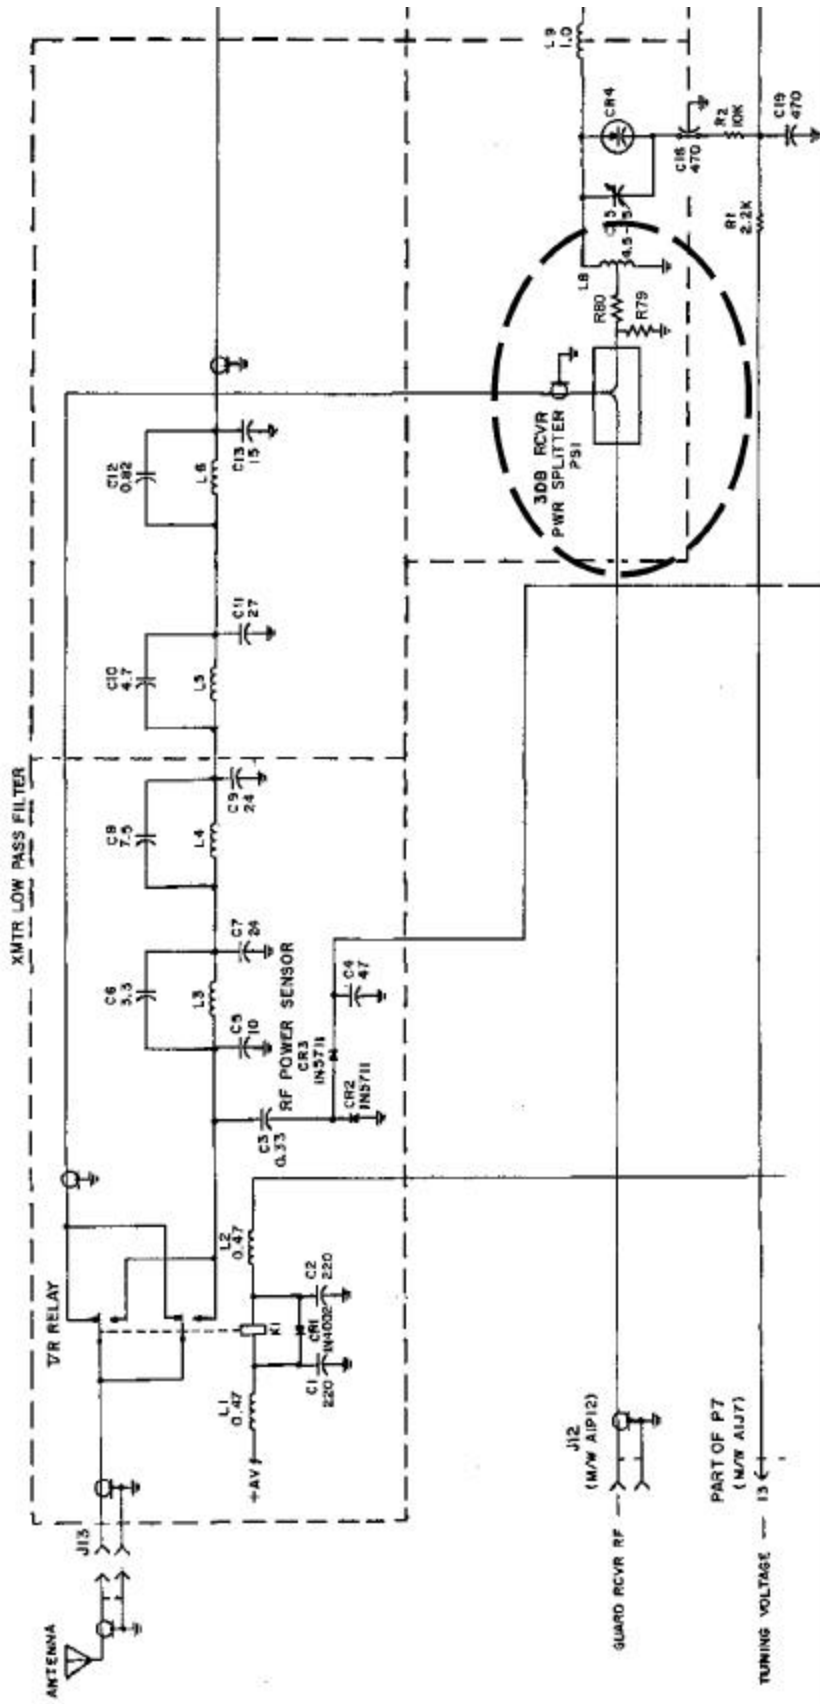

Figure 3. R/T Board Partial Schematic
- Install R80 across the cut trace (refer to Figure 3).
- Install R79 between R80 and PS1 (refer to Figure 3). Ground the other end of R79.